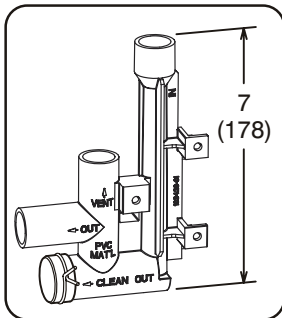

FIGURE 47
- 4 - Install drain trap using appropriate PVC fittings, glue all joints. Glue the provided drain trap as shown in FIGURE 47. Route the condensate line to an open drain. Condensate line must maintain a 1/4" downward slope from the furnace to the drain.